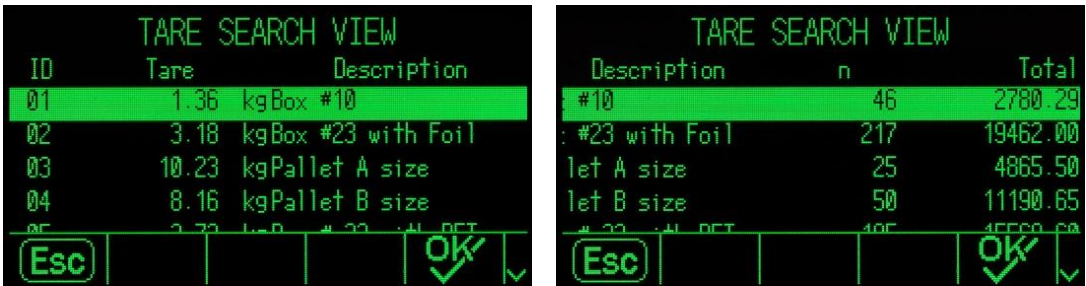

Figure B-4: Tare Table Search View Results
- 3. Press the SEARCH softkey . The table Search View screen displays with the search results sorted by ID. The file will have the lowest record ID at the top of the file and focus will be on that record. Press the RIGHT navigation key to move the view to the right to view the full record. Figure B-4 and Figure B-5 include screens to show the contents of further columns available in the view.
4. Press the SEARCH softkey . The table Search View screen (Figure B-4 and Figure B-5) displays with the search results sorted by ID.